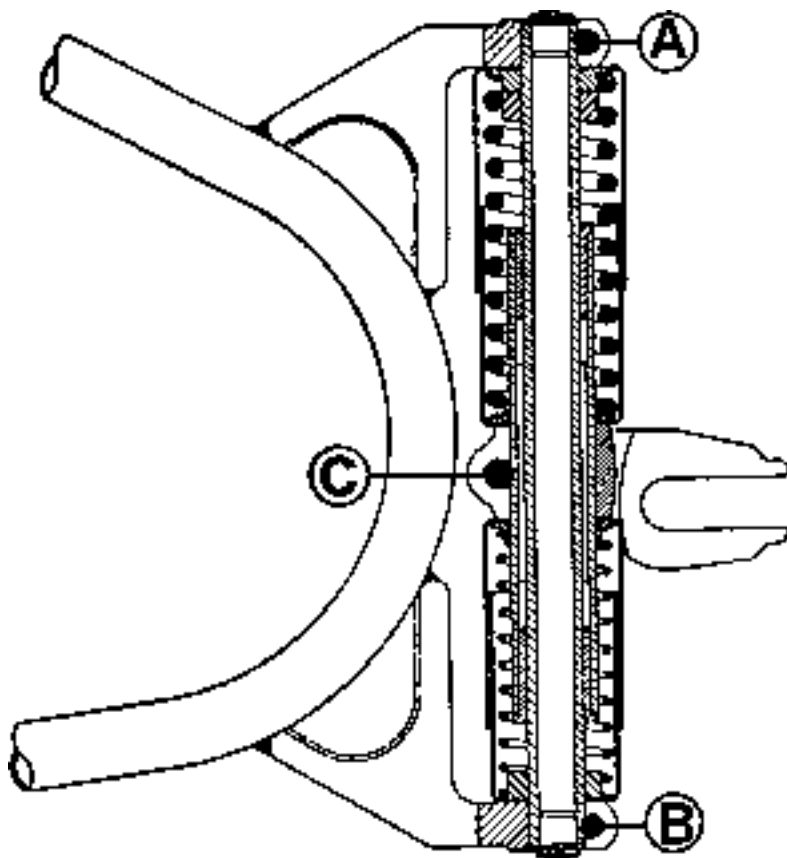

FIG. 11. *Rear suspension unit (D1).*
Next detach the silencer by removing the right-hand nut at (B) Fig. 11. Then release pinch bolts (A) and (B).